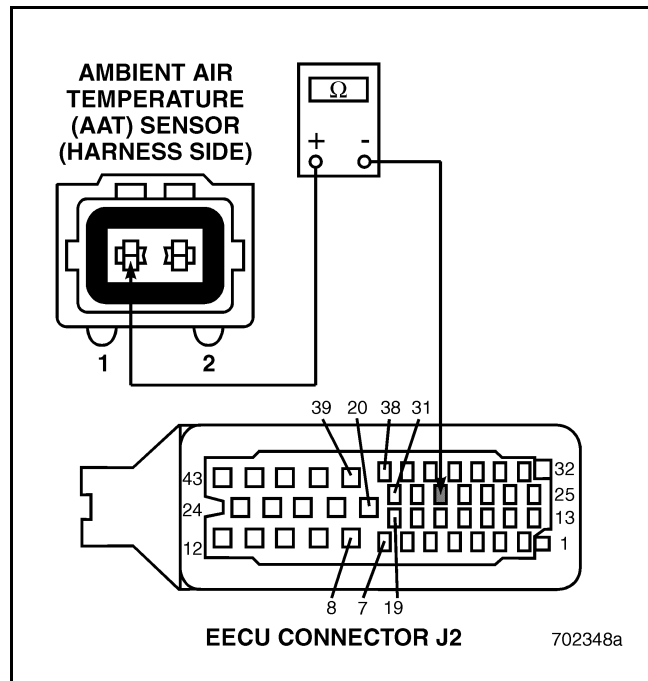

Figure 74
4. Check for continuity between pin 1 of the AAT Sensor harness connector and EECU harness connector J2 pin 29 (see Figure 74).